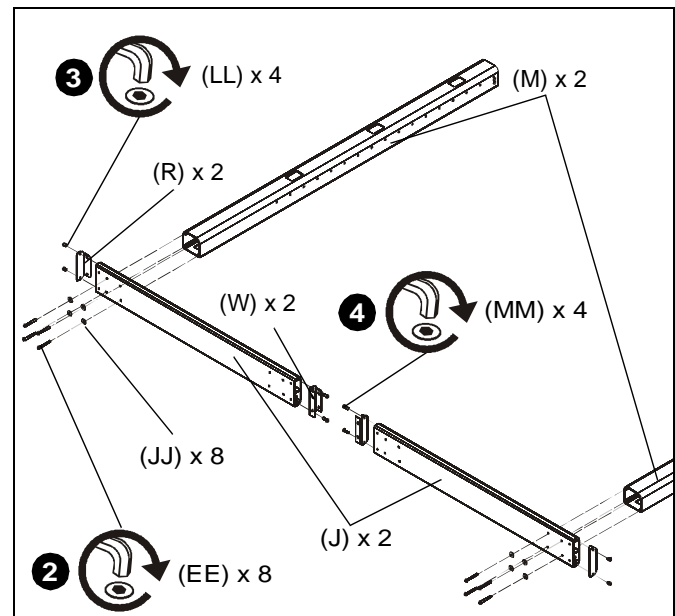

Figure 3
1. Lay two cart array columns (M) down on a flat surface.
2. Use eight 5/16-18 x 2 1/2" button head cap screws (EE) and eight 5/16" washers (JJ) to connect two cross bars (J) to columns (M). (See Figure 3)
3. Use four 5/16-18 x 1/2" button head cap screws (LL) to attach two end brackets (R) to cross bars (J). (See Figure 3)
4. Use four 5/16-18 x 1" button head cap screws (MM) to attach two extender brackets (W) to the other ends of cross bars (J). (See Figure 3)